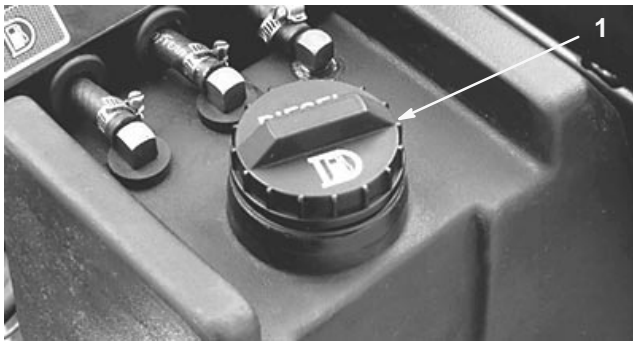

Figure 3
2. Remove fuel tank cap (Fig. 3).